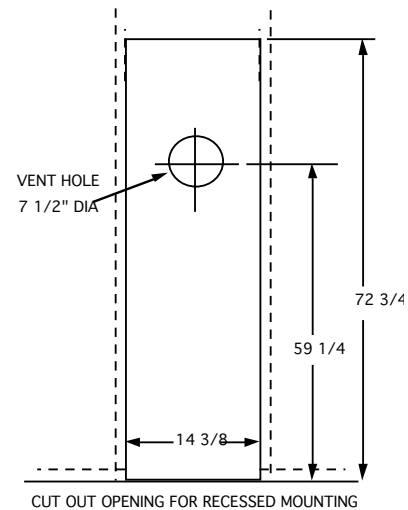
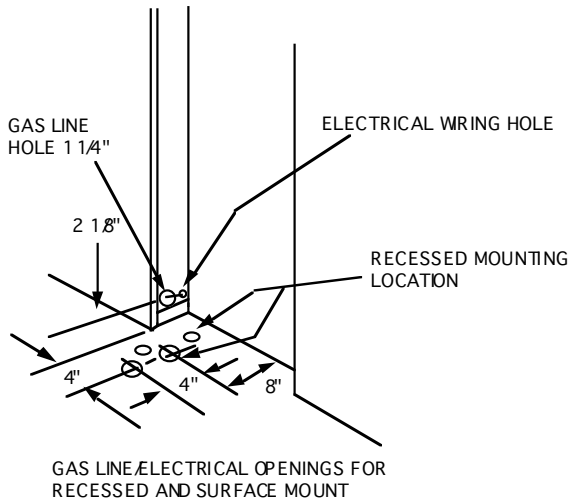

Figure 5
Figure 7
The furnace is to be located on an outside wall. Locate wall studs so that wall opening will be located between wall studs. The furnace is 14 1/8" (358mm) in width and can be recessed between standard 16" (406mm) on center wall stud. The wall opening required as shown in Figure 5 is a diameter of 7 1/2" (191mm).
A template is provided in furnace carton for positioning furnace on the wall. Also, refer to Figure 5 and Figure 7 for positioning the furnace on wall and for locating gas line connection.
Refer to Figure 5 for the location of the 7 1/2" (191 mm) diameter wall opening for the furnace. After the wall opening has been located and cut, position flue outlet on furnace in center of wall opening. When attaching furnace to the wall remove that portion of baseboard and molding on the wall which is behind the furnace. Attach furnace to wall, at the outer casing top, with (2) toggle bolts provided and to floor, at the outer casing bottom, with (2) #10 x 1 1/2" (38mm) screws provided.